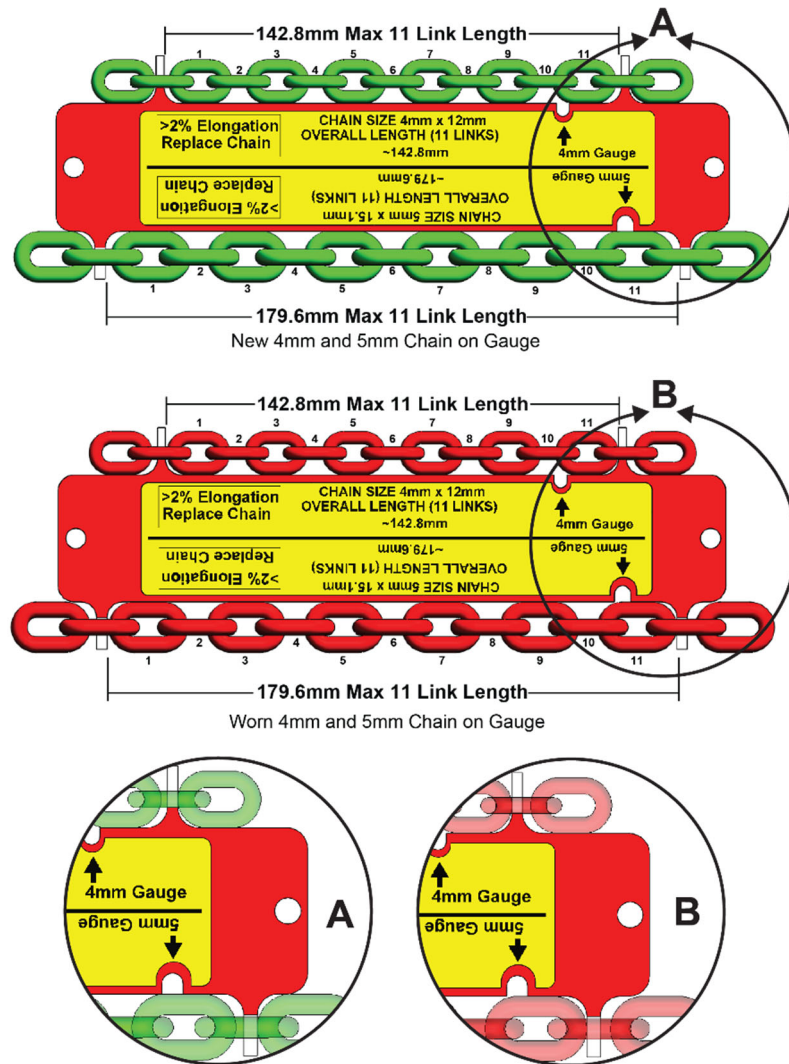

Figure 4-2
1. Determine which type of chain is being inspected, either 4mm or 5mm (balancer chain is 5mm only), by placing a single link into the chain gauge where the arrows are located. (See Figure 4-2 below).